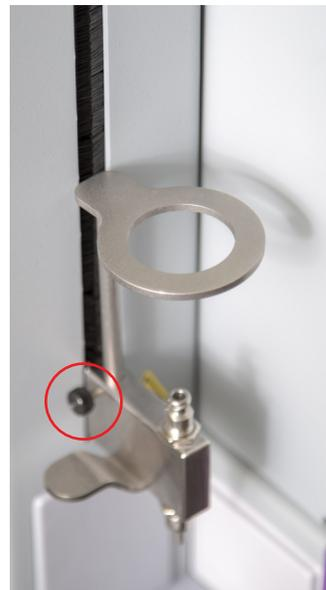

Figure 2-13 Location of the side hole to secure the SLCC ring support
3. Secure the support with the knobbed screw via the side hole (Figure 2-13).